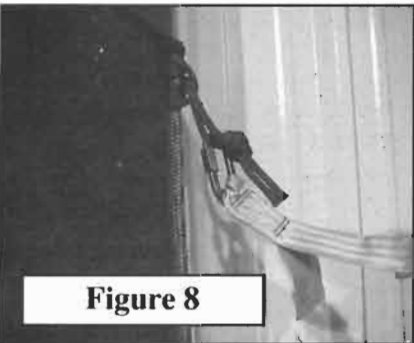

Figure 8
3. Open the prussic hitch loop and insert the harness tether safety clip through this loop as shown in **Figure 8**. Screw the locking collar **COMPLETELY** closed to secure the safety clip.
3. Put the safety rope around the tree and attach the prussic hitch to the safety clip as you did in Figure 8. Screw the locking collar **COMPLETELY** closed to secure the safety clip.